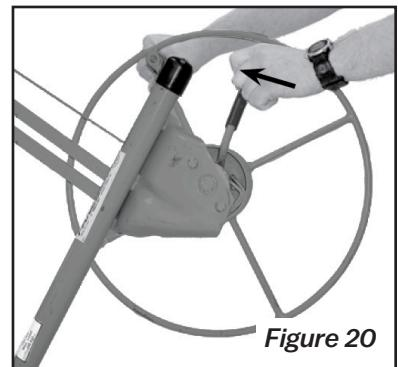

Figure 20
2. Retain your hold on the winch handle. Carefully release the brake with your left hand and slowly rotate the wheel backward to lower the cradle to the desired height (Figure 20).